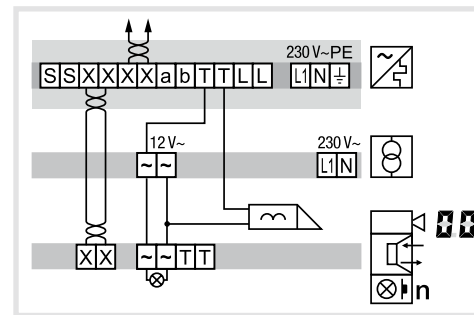

Figure 7: Connection of door station video with manipulation-protected door release
- For manipulation-protected installation, connect the door release to the contact of the line power supply (Figure 7).